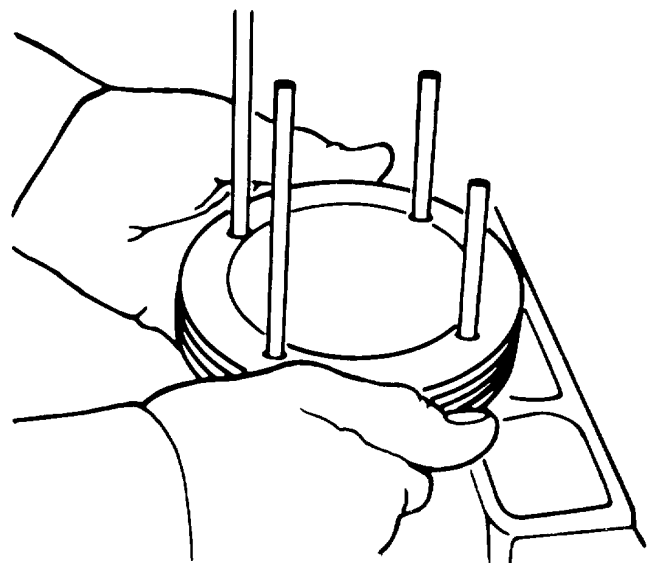

Figure A-15. Cylinder
l. Cylinder. Rotate the flywheel until the piston reaches the bottom of its stroke. Carefully slide the cylinder up off the studs. (Figure A-15.)